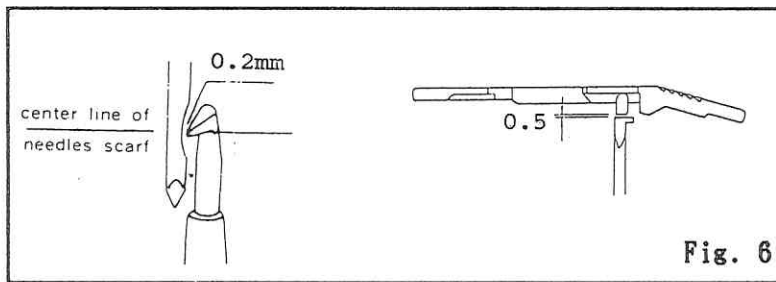

Fig. 6
4. Fasten the needle-bar screw (SA26), put the needle bar protective cover (A101R) back, and then readjust the clearance between the needle and looper (A300) according to Fig.6.
4. Ajuste el tornillo (SA26) (seguro de aguja), ver la Fig.6.
4. Aperte o parafuso da barra de agulha (SA26) e reajuste a folga (A101R) entre a agulha e o looper (A300), de acordo com a Fig.6.
5. Put the holder back to the holder bed (A303R) and adjust the height and timing of looper as per Fig .6. and fasten the screw (SA03).
5. Coloque el garfio en el cabezal (A303R) y ajuste su altura y cronometraje (SA03), ver la Fig.6.
5. Coloque o suporte do looper de volta (A303R) ajustando a altura e sincronismo do looper conforme (SA03) Fig 6.